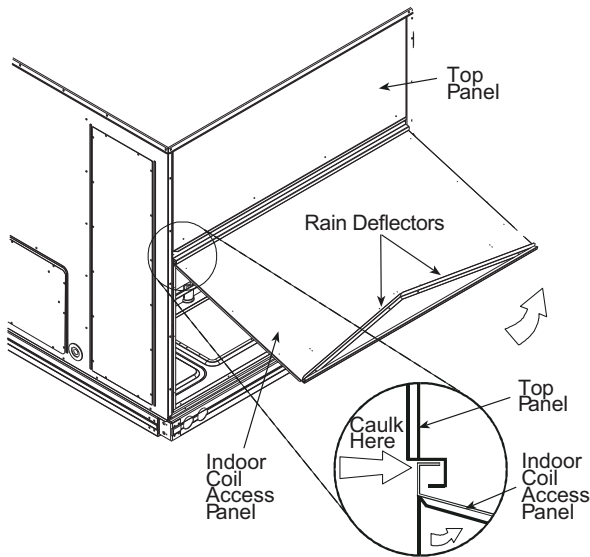

Fig. 16 — Indoor Coil Access Panel Relocation
1. The indoor coil access panel will be used as the top of the hood. If the panel is still attached to the unit, remove the screws along the sides and bottom of the panel. See Fig. 16.
7. Install the 2 rain deflectors on the edge of the hood top as shown in Fig. 16.
8. Caulk the ends of the joint between the unit top panel and the hood top as shown in Fig. 16.